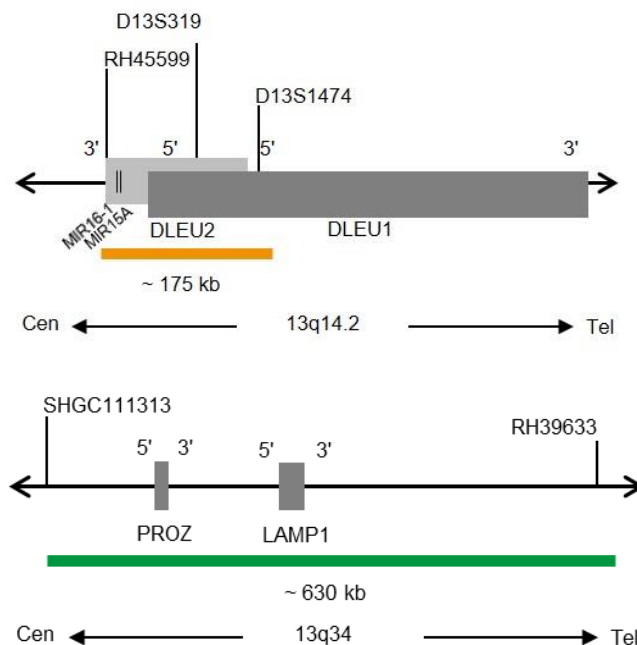

Fig. 1: Top: SPEC D13S319 Probe map; Bottom: SPEC 13q34 Probe map (not to scale)
- ZyOrange (excitation 547 nm/emission at 572 nm) labeled polynucleotides (4.5 ng/μl), which target sequences mapping in 13q14.2* (chr13:50,607,438-50,781,256) harboring the D13S319 locus (see Fig. 1).
- ZyGreen (excitation 503 nm/emission 528 nm) labeled polynucleotides (10.0 ng/μl), which target sequences mapping in 13q34* (chr13:113,691,216-114,323,467) (see Fig. 1).